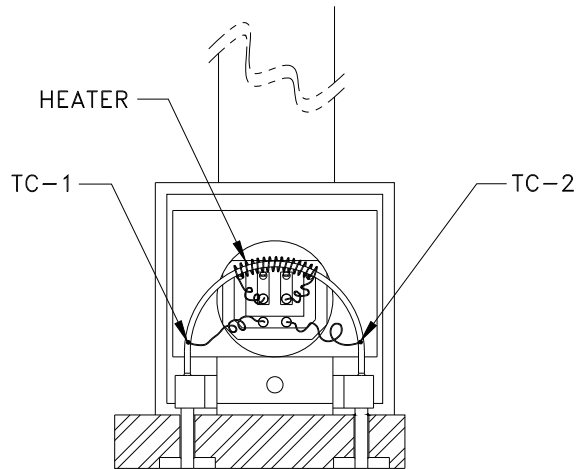

Figure 3.1
The Hastings HFM-200/HFC-202 series operates on a unique thermal electric principle whereby a metallic capillary tube is heated uniformly by a resistance winding attached to the midpoint of the capillary (see Figure 3.1). Thermocouples TC-1 and TC-2 are welded at equal distances from the midpoint and develop equal outputs at zero flow.
**ACTION:** Unplug connector J1. Check the following resistance: The resistance between pins 2 & 3 of the sensor should be approximately 2500 Ohms (see Figure 3.1 on page 8). The resistance between pins 1 & 4 should be approximately 2.3 Ohms. The resistance between pins 2 & 3 and the base of the sensor should be essentially infinite. If not, replace the sensor unit. If sensor reads O.K., check the voltage output on pins 2 & 3 of the jack in the board. If it does not read approximately 22 VDC then replace regulator U2 (U3 on 24 Volt board).